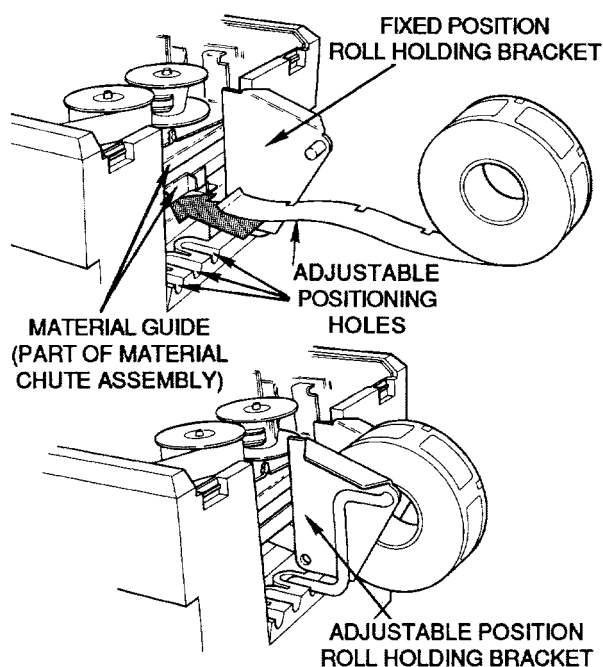

Figure 8. Loading Labels
(4) Loading Labels. The printer has a fixed position bracket on the left side and an adjustable position bracket that adjusts for 3/4, 1 1/4 or 1 3/4 inch side liners (Figure 8).